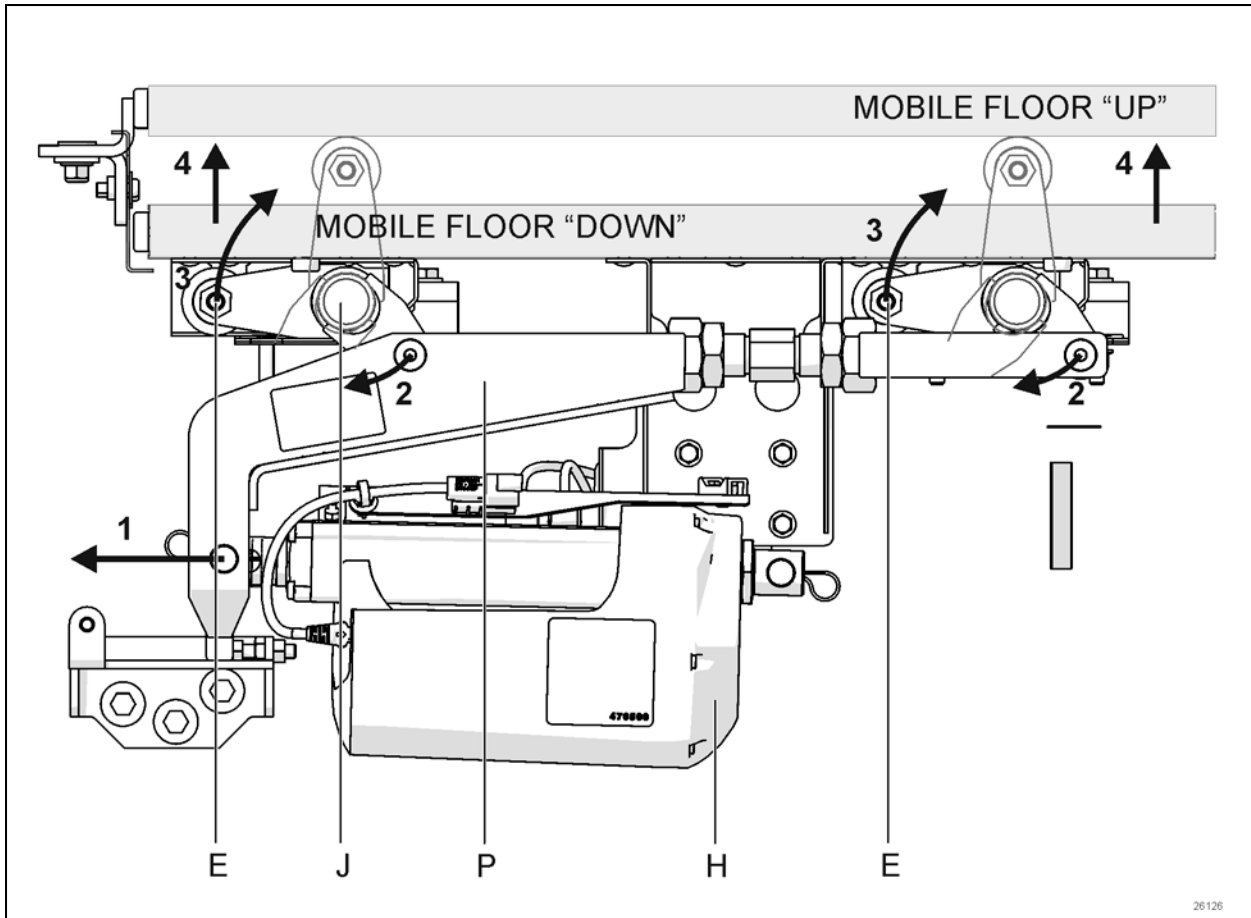

FIGURE 46: FLUSH FLOOR LIFTING
When the linear actuator extends (Figure 46, 1), the transfer arm rotates the floor lift shaft links inward (2), rotating at the same time the eccentric rollers upward (3), effectively lifting the mobile floor (4) The vertical movement of the floor is guided by a pair of vertical linear bearings **(G)**.